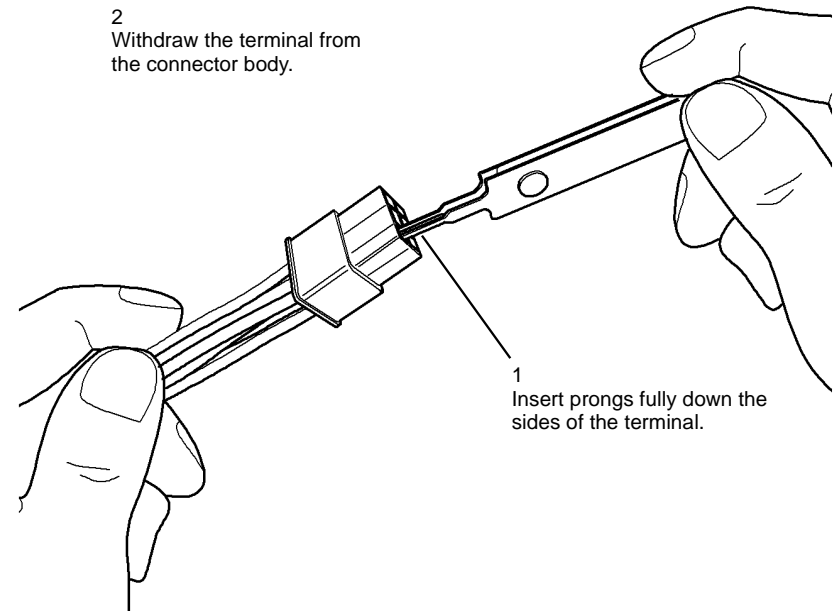

Figure 2 Removing the terminal
1. **Figure 2.** Remove the terminal from the housing, using the Molex, Mini-Fit extractor tool.